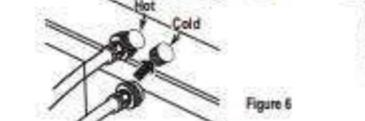

Figure 6
5. Attach the hot water line to the hot water inlet on the back of the washer. Attach the cold water line to the cold water inlet on the back of the washer. Tighten each inlet hose by hand and then tighten another $\frac{1}{2}$ turn with pliers. Turn ON both faucets all the way and check for leaks at both ends of the hoses. (Figure 6)